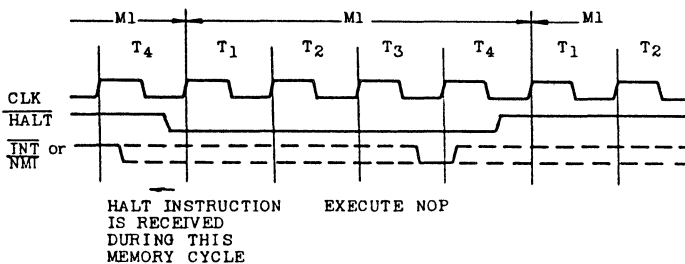

FIGURE 13. HALT ACKNOWLEDGE CYCLE AND EXIT
- Fig. 13 Exit from a HALT instruction
Whenever a software halt instruction is executed the CPU begins executing NOP's until an interrupt is received (either a non-maskable or a maskable interrupt while the interrupt flip flop is enabled). The two interrupt lines are sampled with the rising clock edge during each T4 state as shown in Figure 13. If a non-maskable interrupt has been received or a maskable interrupt has been received and the interrupt enable flip-flop is set, then the halt state will be exited on the next rising clock edge. The following cycle will then be an interrupt acknowledge cycle corresponding to the type of interrupt that was received. If both are received at this time, then the